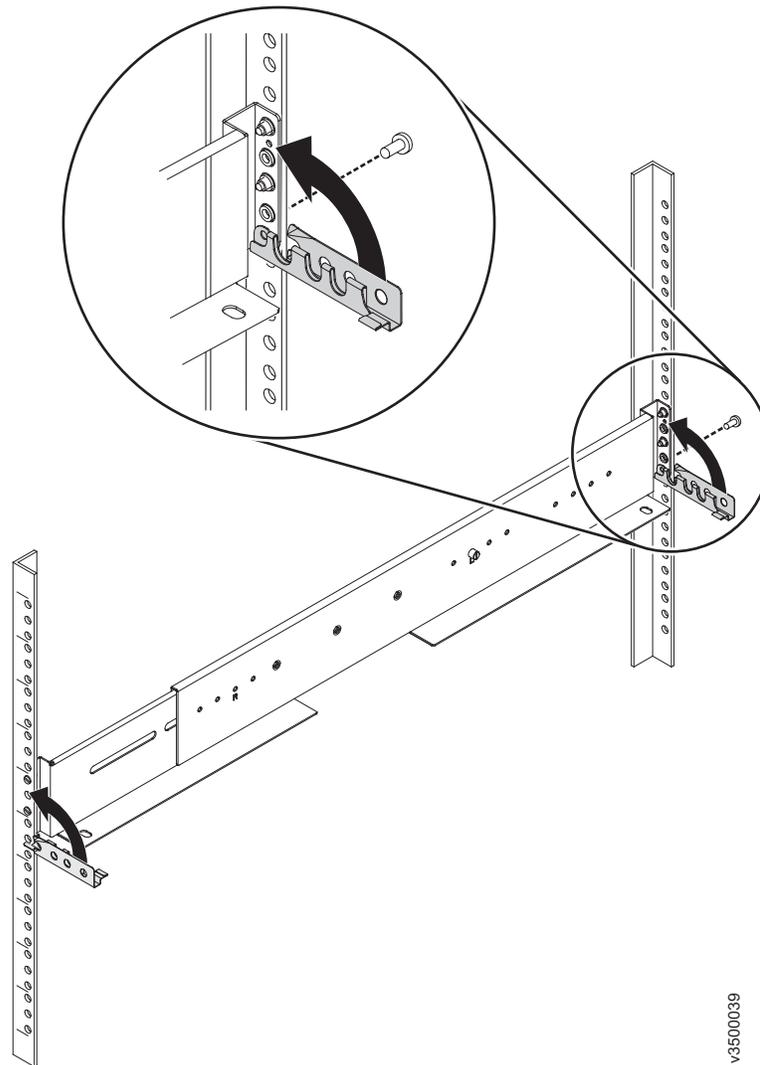

Figure 13. Closing hinge brackets and installing rear screw
9. Close the rear hinge bracket to secure the rail to the rack cabinet flange. (See Figure 13.)
11. Close the front hinge bracket to secure the rail to the rack cabinet flange. (See Figure 13.)
12. Secure the rear of the rail to the rear rack flange with an M5 screw. (See Figure 13.)